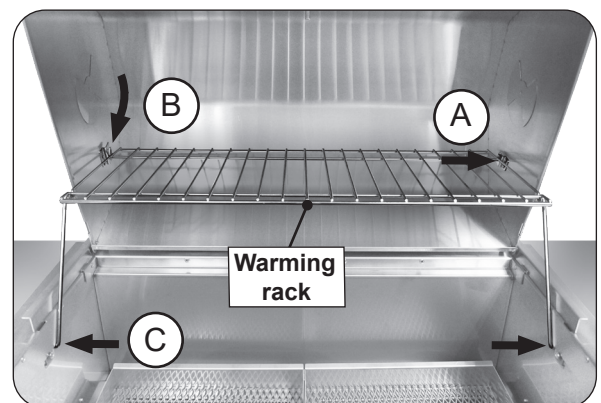

Fig. 14-4 Install warming rack
1. Carefully insert the right-end of the warming rack into the bracket found on the right side of the inner hood (see Fig. 14-4, A).
2. Slide the left-end of the warming rack downward into the left bracket cutout (see Fig. 14-4, B).
3. Install the two legs to the two holes found on the grill firebox inner walls (see Fig. 14-4, C).